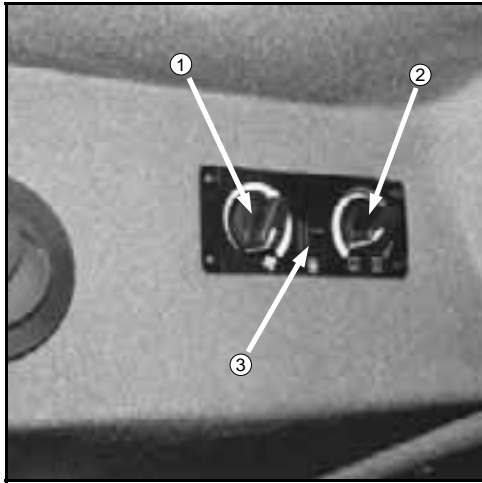

FIG 5.58
**ADJUSTING FAN BLOWER SPEED** - Fan blower speed is controlled by the left rotary dial on the cab climate control panel (fig. 5.58, item 1). The fan blower speed is a continuously variable adjustment. To increase fan speed, rotate fan blower dial clockwise. To reduce fan speed, rotate fan blower dial counterclockwise. To shut fan blower off, rotate fan blower dial all the way counterclockwise.
**ADJUSTING TEMPERATURE SETTING** - Forced air temperature adjustments are controlled by the right rotary dial on the cab climate control panel (fig. 5.58, item 2). Temperature control is a continuously variable adjustment. To increase forced air temperature, rotate temperature dial clockwise. To decrease forced air temperature, rotate temperature dial counterclockwise.
**OPERATING AIR CONDITIONING** - To activate the air conditioner, depress the air conditioning switch (fig. 5.58, item 3). Adjust fan speed and temperature accordingly.